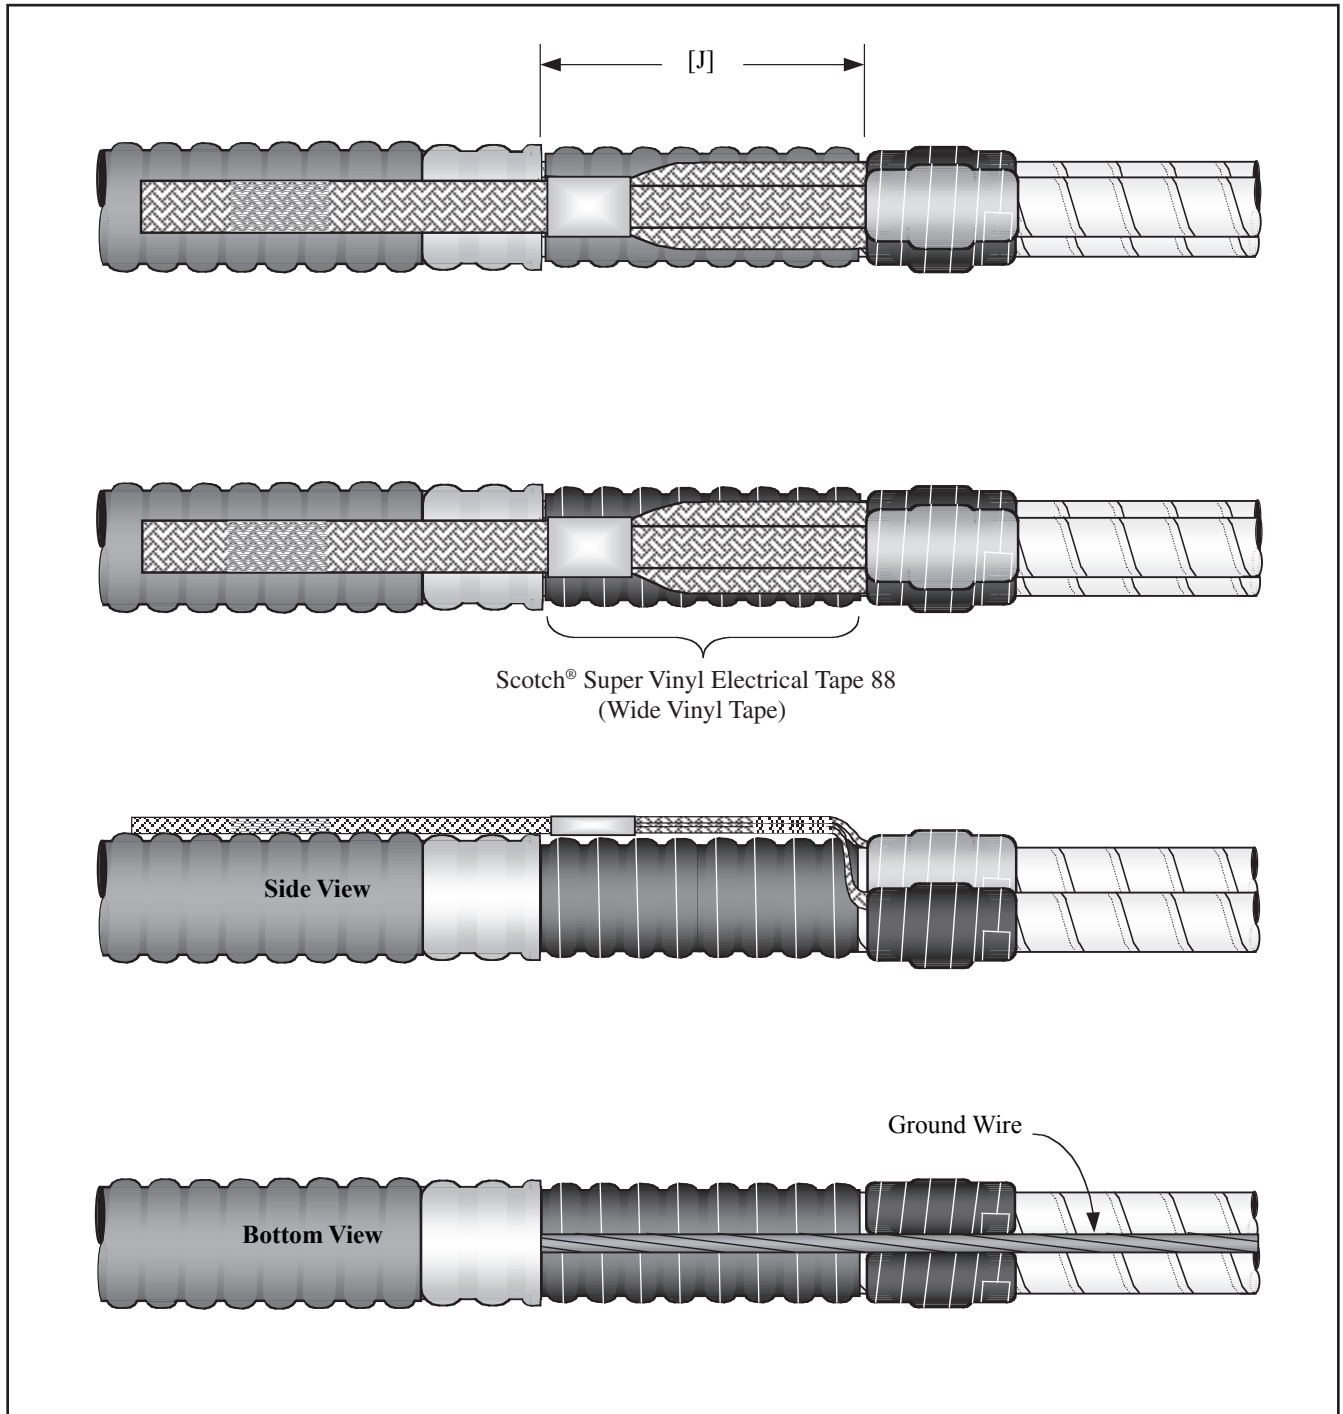

Figure 3
3.4 Measure distance [J] (Figure 3). Retrieve previously removed cable jacket material. Cut a straight piece to dimension [J] and wrap it around cable phases beneath ground strap assembly and cable ground wire. Secure jacket section in place using Scotch® Super Vinyl Electrical Tape 88 (wide vinyl tape) (Figure 3).